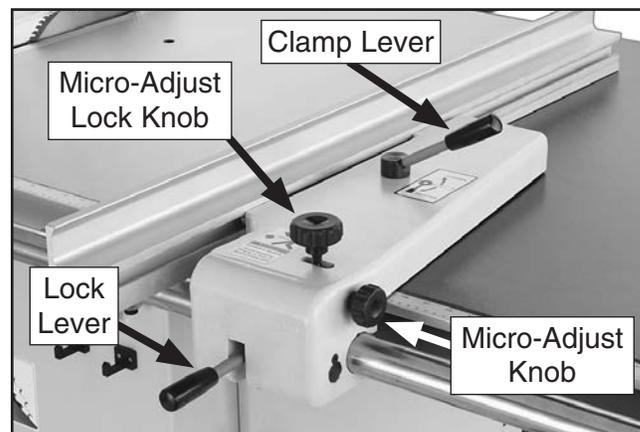

Figure 102. Rip fence controls.
5. Lift the fence lock lever and position the rip fence to the approximate width-of-cut (see **Figure 102**).